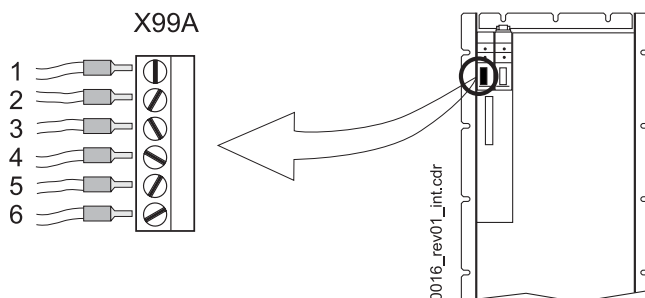

figure 16: Control terminal X99A
2) Position, see ►figure 16◄ on page 50.